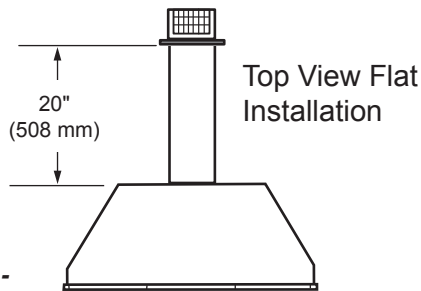

Figure 16 - Rear Vent Application, Maximum Horizontal Distance
- The maximum horizontal distance between the rear of the appliance and the outside face of the rear wall is 20" (508 mm). *Figure 16*